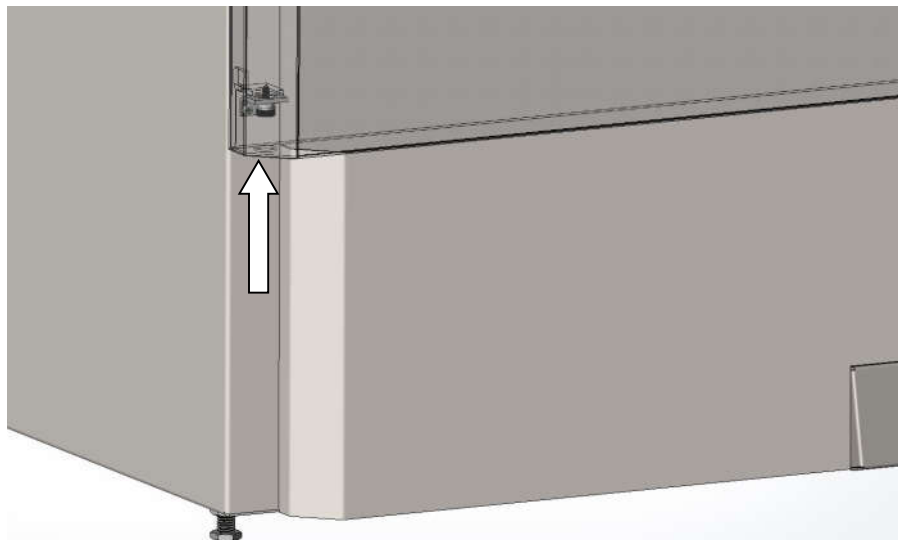

Figure 3
- a. Remove the upper front panel of the table. Access the two captive mounting #2 Phillips screws through the holes at the lower corners as shown in Figure 3. After loosening the screws completely, lift to unhook the panel at the top.